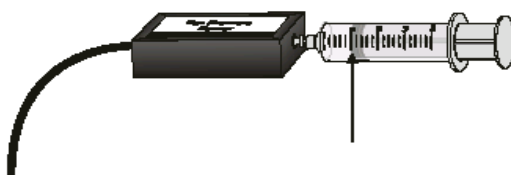

Figure 5.2: Experimental setup for Boyle's law
- a. Move the piston to position the front edge of the inside black ring (see Figure 5.2) at the 5.0-mL line on the syringe. Hold the piston firmly in this position until the pressure value stabilizes.